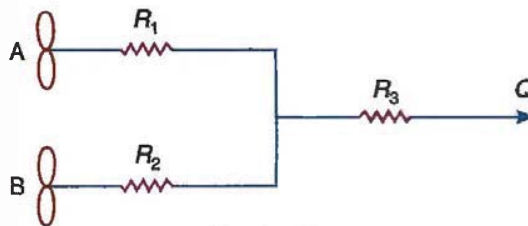

Fig. 21.18
**Example 21.6.** The fans  $A$  and  $B$  supply equal volumes of air to a system as shown in Fig. 21.18.